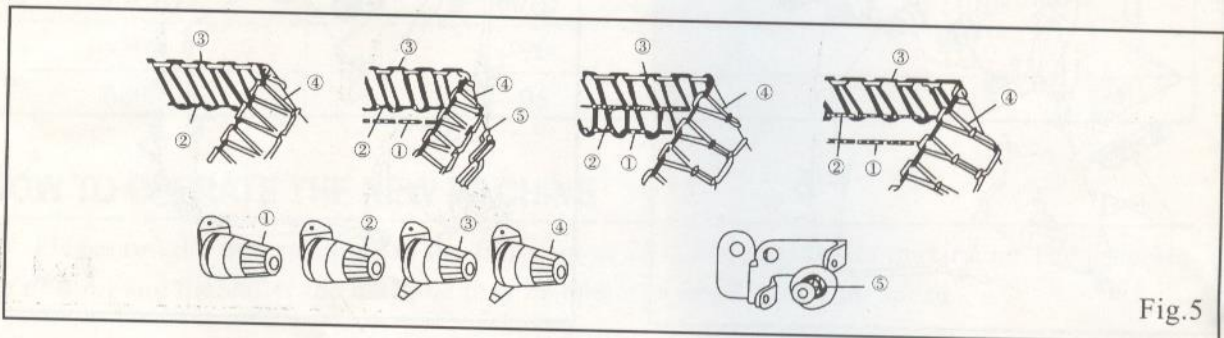
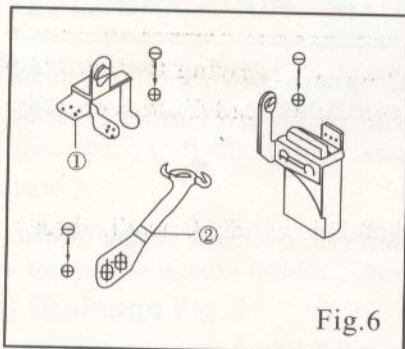

Fig.5
Fig.6
### (1) Tension Nut Adjustment.Fig.5
- The tension Nut ① controls the double chain needle thread or left side overlock needle thread.
- The Tension Nut ⑤ controls the double chain looper thread.
- The Tension Nut ② controls the overlock needle thread.
- The Tension Nut ③ controls the upper looper thread.
- The Tension Nut ④ controls the lower looper thread.
## (2) Needle thread control.Fig.6